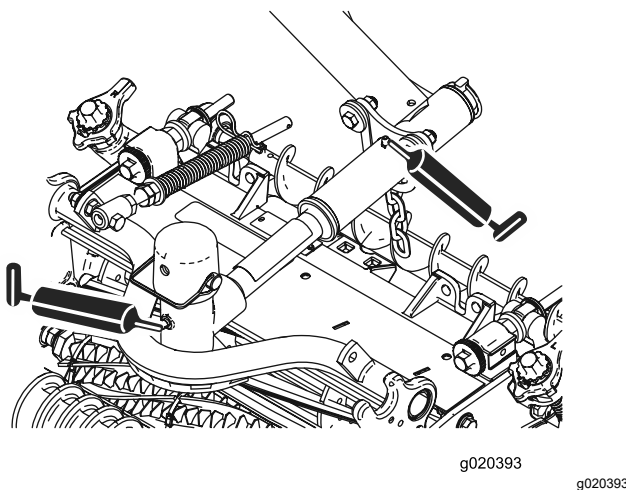

Figure 57
- Cutting unit pivots (2 each); refer to Figure 57.